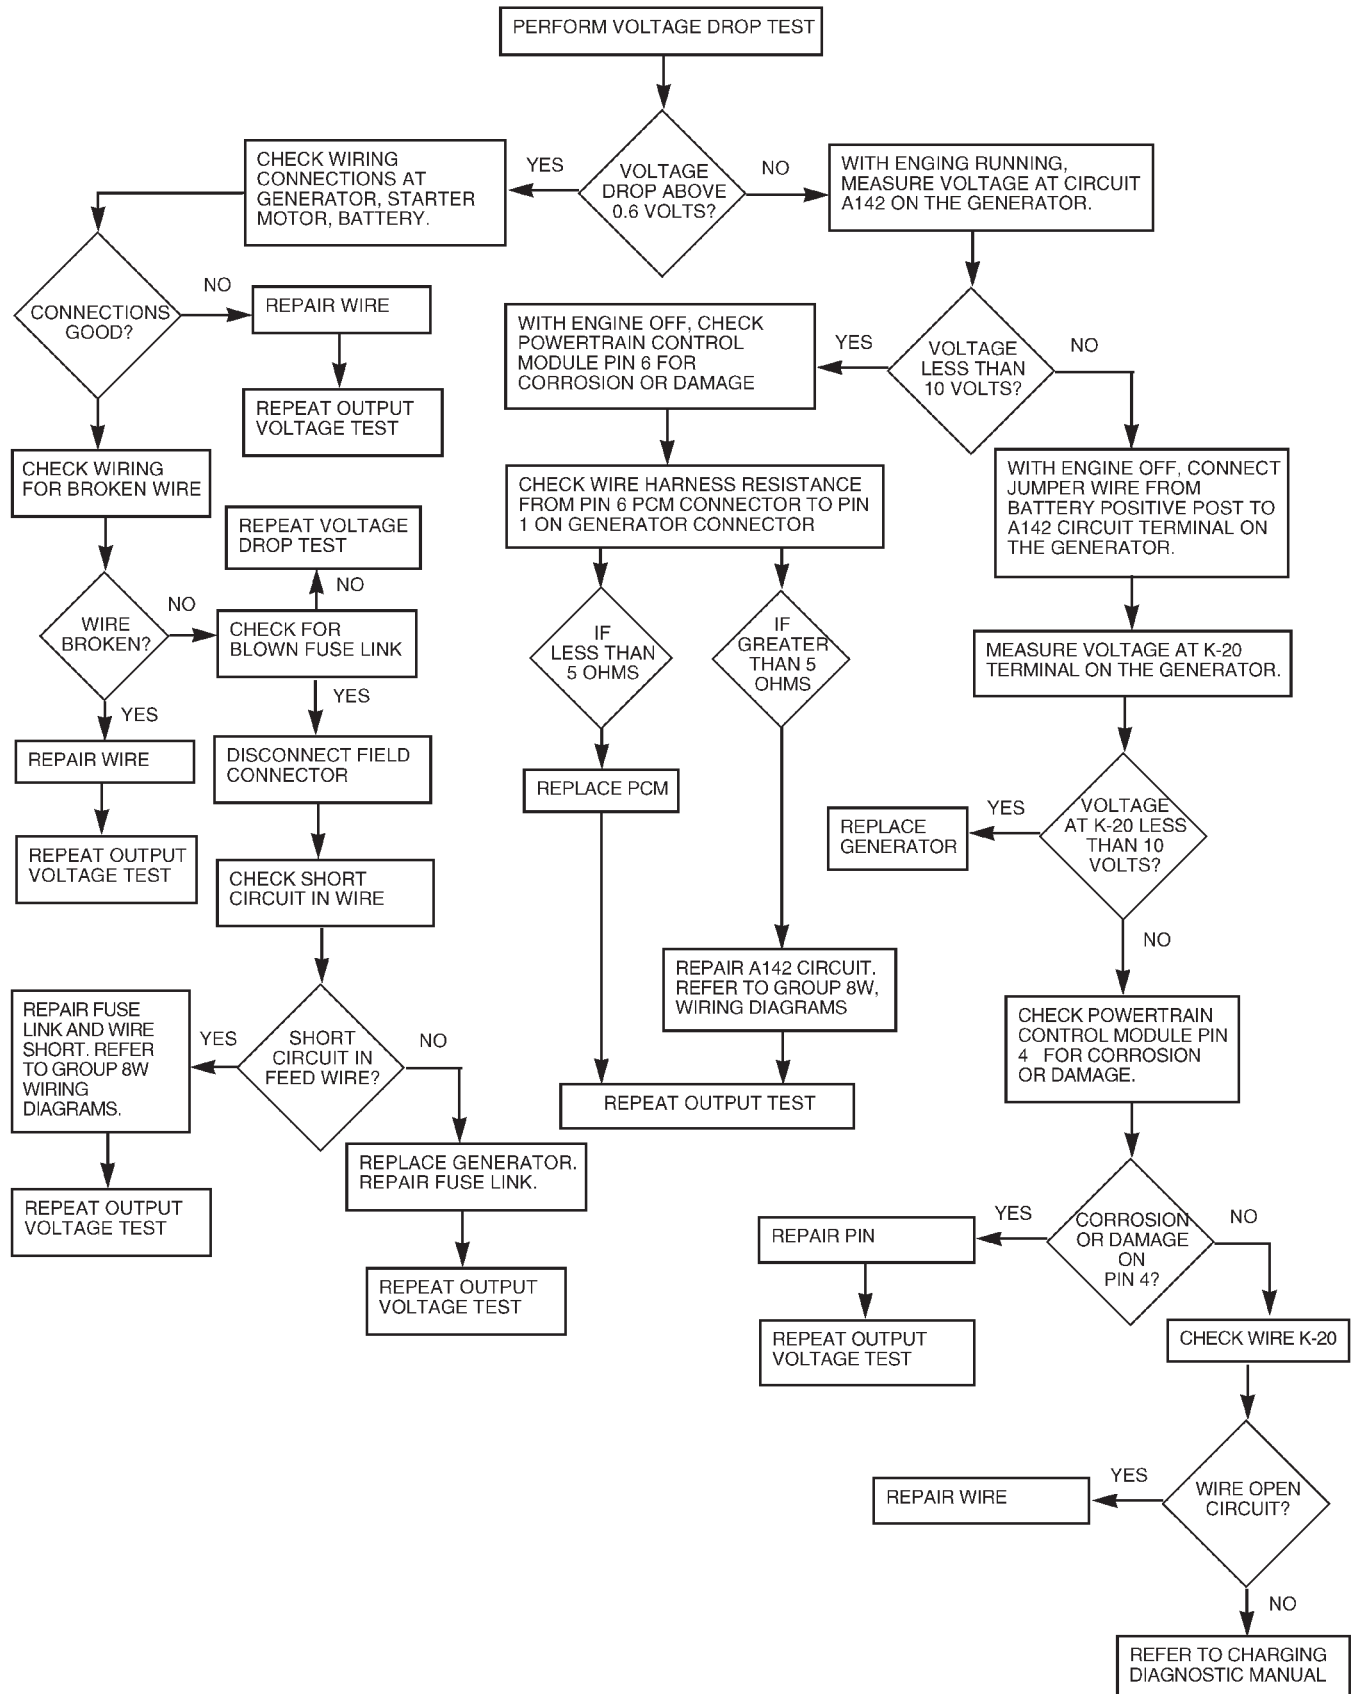

Fig. 4 Voltage Drop Test
(1) Determine if any Diagnostic Trouble Codes (DTC) exist. To determine a DTC, refer to On-Board Diagnostics in this group. For repair, refer to the appropriate Powertrain Diagnostic Procedures manual.
(2) Before starting test, make sure battery is in good condition and is fully-charged. See Group 8A, Battery for more information.
(3) Check condition of battery cables at battery. Clean if necessary.
(4) Perform the previous Output Wire Resistance Test (voltage drop test) (Fig. 4). This will ensure clean and tight generator/battery electrical connections.
(5) Be sure the generator drive belt is properly tensioned. Refer to Group 7, Cooling System for information.
(6) A volt/amp tester equipped with both a battery load control (carbon pile rheostat) and an inductive-type pickup clamp (ammeter probe) will be used for this test. Refer to operating instructions supplied with tester. When using a tester equipped with an inductive-type clamp, removal of wiring at the generator will not be necessary.
(7) Start the engine and allow it to reach operating temperature.
(8) Shut engine off.
(9) Turn off all electrical accessories and all vehicle lighting.
(10) Connect the volt/amp tester leads to the battery. Be sure the carbon pile rheostat control is in the OPEN or OFF position before connecting leads. See Load Test in Group 8A, Battery for more information. Also refer to the operating instructions supplied with test equipment.
(11) Connect the inductive clamp (ammeter probe). Refer to the operating instructions supplied with test equipment.
(12) If volt/amp tester is not equipped with an engine tachometer, connect a separate tachometer to the engine.